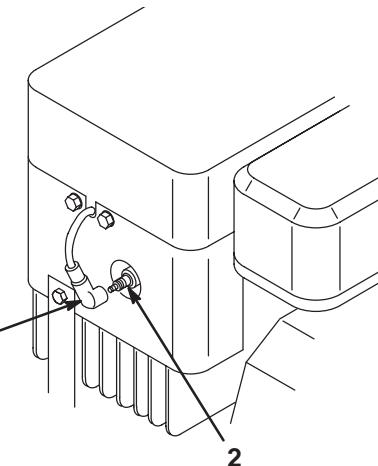

Figure 24
5. Reach under the body of the machine above the left rear wheel and disconnect the wire from the spark plug (Fig. 24).
3. Connect the wire to the spark plug (Fig. 24).